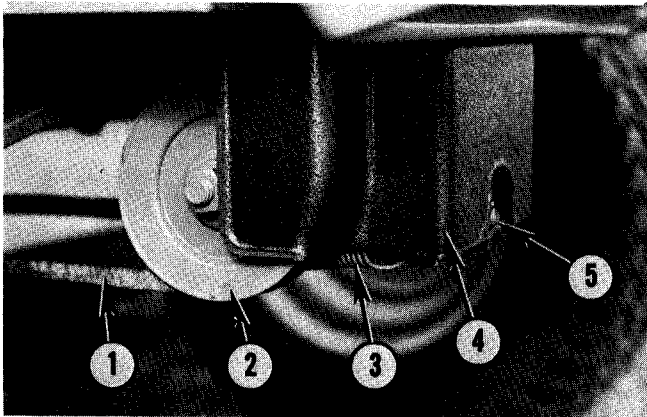

Fig. 48 — Attaching Mower
- 7. Remove mule drive cover by removing 2 bolts, see Fig. 48.